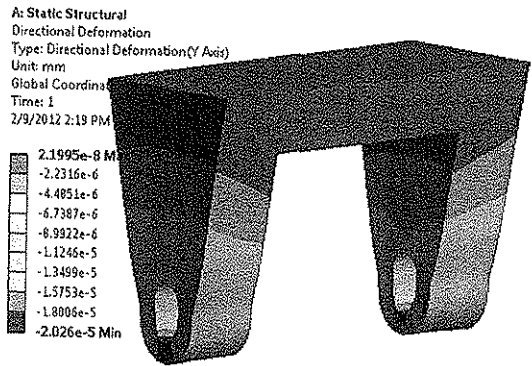

Figure 9-76 Directional Deformation along the Y axis
- 10. Select the **Directional Deformation** node in the Tree outline to display the Directional Deformation along the Y axis, as shown in Figure 9-76.